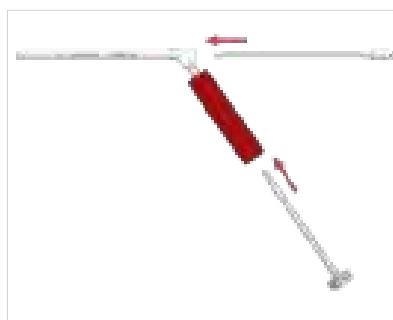

Figure 2: Assembly of the rod holder
3. To insert the rod, the rod holder (AC0102) must be assembled (Figure 2).